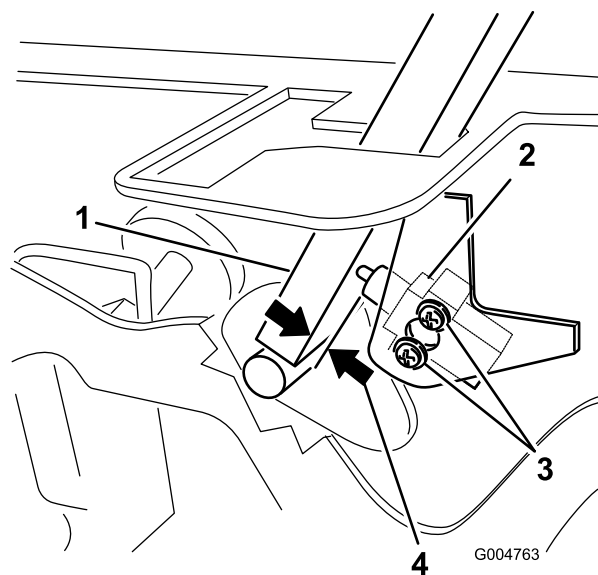

Figure 81
3. Loosen the 2 screws securing the interlock switch (Figure 81).
4. Holding the control lever against the frame, move the switch toward the lever until the distance between lever and switch body is 0.4 to 1 mm (0.015 to 0.045 inch) as shown in Figure 81.